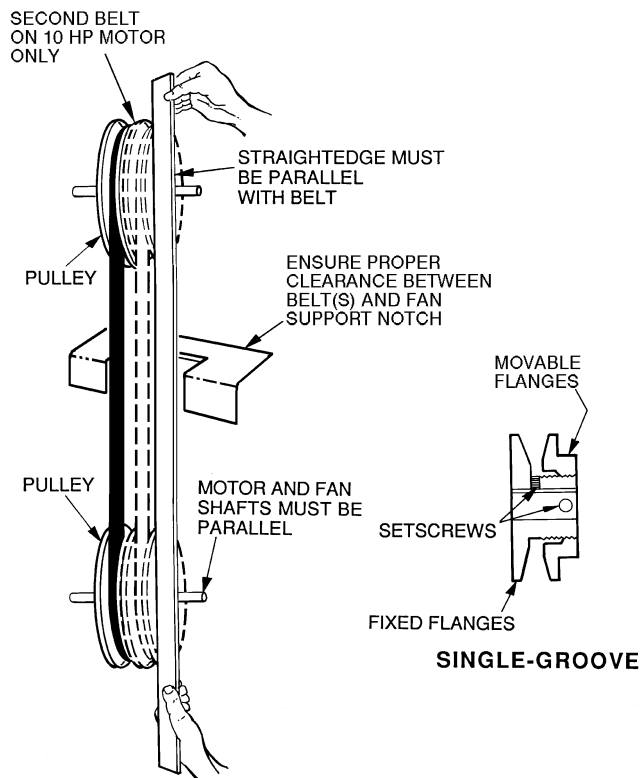

Fig. 50 — Evaporator-Fan Pulley and Adjustment
Evaporator Fan Performance Adjustment (Fig. 50 and 51) — Fan motor pulleys are factory set for speed shown in Table 1.
3. Loosen movable-pulley flange setscrew (see Fig. 50).